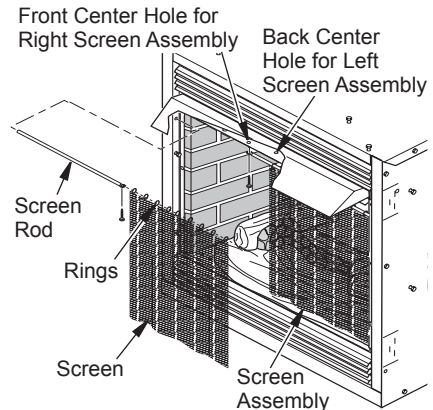

Figure 40 - Installing Screen for Models CDCFNR/CDCFPR
5. Insert each rod through ten rings located at top of screen (see Figure 40).
6. Insert first rod into hole in left side of firebox. Fasten rod to rear hole near center of firebox using black Phillips head screw (see Figure 40, page 21).